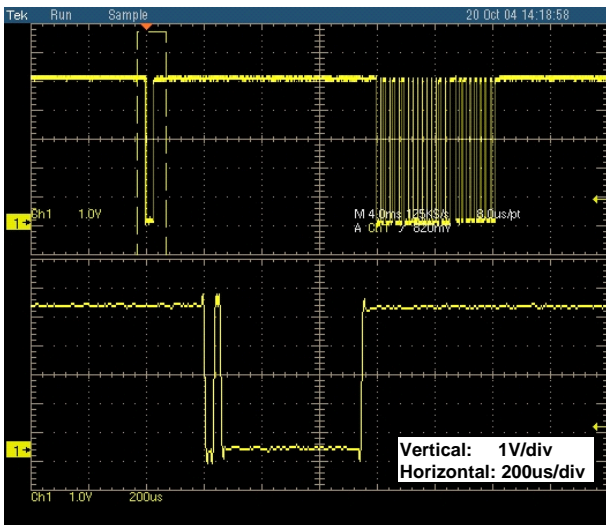

FIGURE 14. POWER-ON BREAK SIGNAL TO WAKE-UP THE ISL6296 FROM SLEEP MODE
that should be used only when the user knows for sure that the device is in the sleep mode. After the narrow break, the device will wake up and send back a break (Refer to the datasheet for more explanation of the narrow power-on break). Figure 14 illustrates the captured waveforms. If the user does not know if the device is in the sleep mode or is awake, the “regular break” option should be chosen, because the long break signal will still wake up a device in sleep mode, or will be ignored if the device is already awake. The send without a break signal can be an option if the user knows for sure that the device is not in the sleep mode.
signal is provided in the XSD Access tab as an option of the *Send* button. When this option is selected, the host sends out a 'power-on break' before sending the instruction frame. Figure 14 illustrate the two 'break' signals. The narrow one was sent by the host and the wider one was the one returned from the ISL6296 (approximately 480 μ s). From the 480 μ s 'break' signal, the BT can be calculated as
1. If the device is in the sleep mode, send a 'power on break' with a read instruction in the XSD Access tab to measure the returned 'break' signal for ISL6296, as shown in Figure 14.